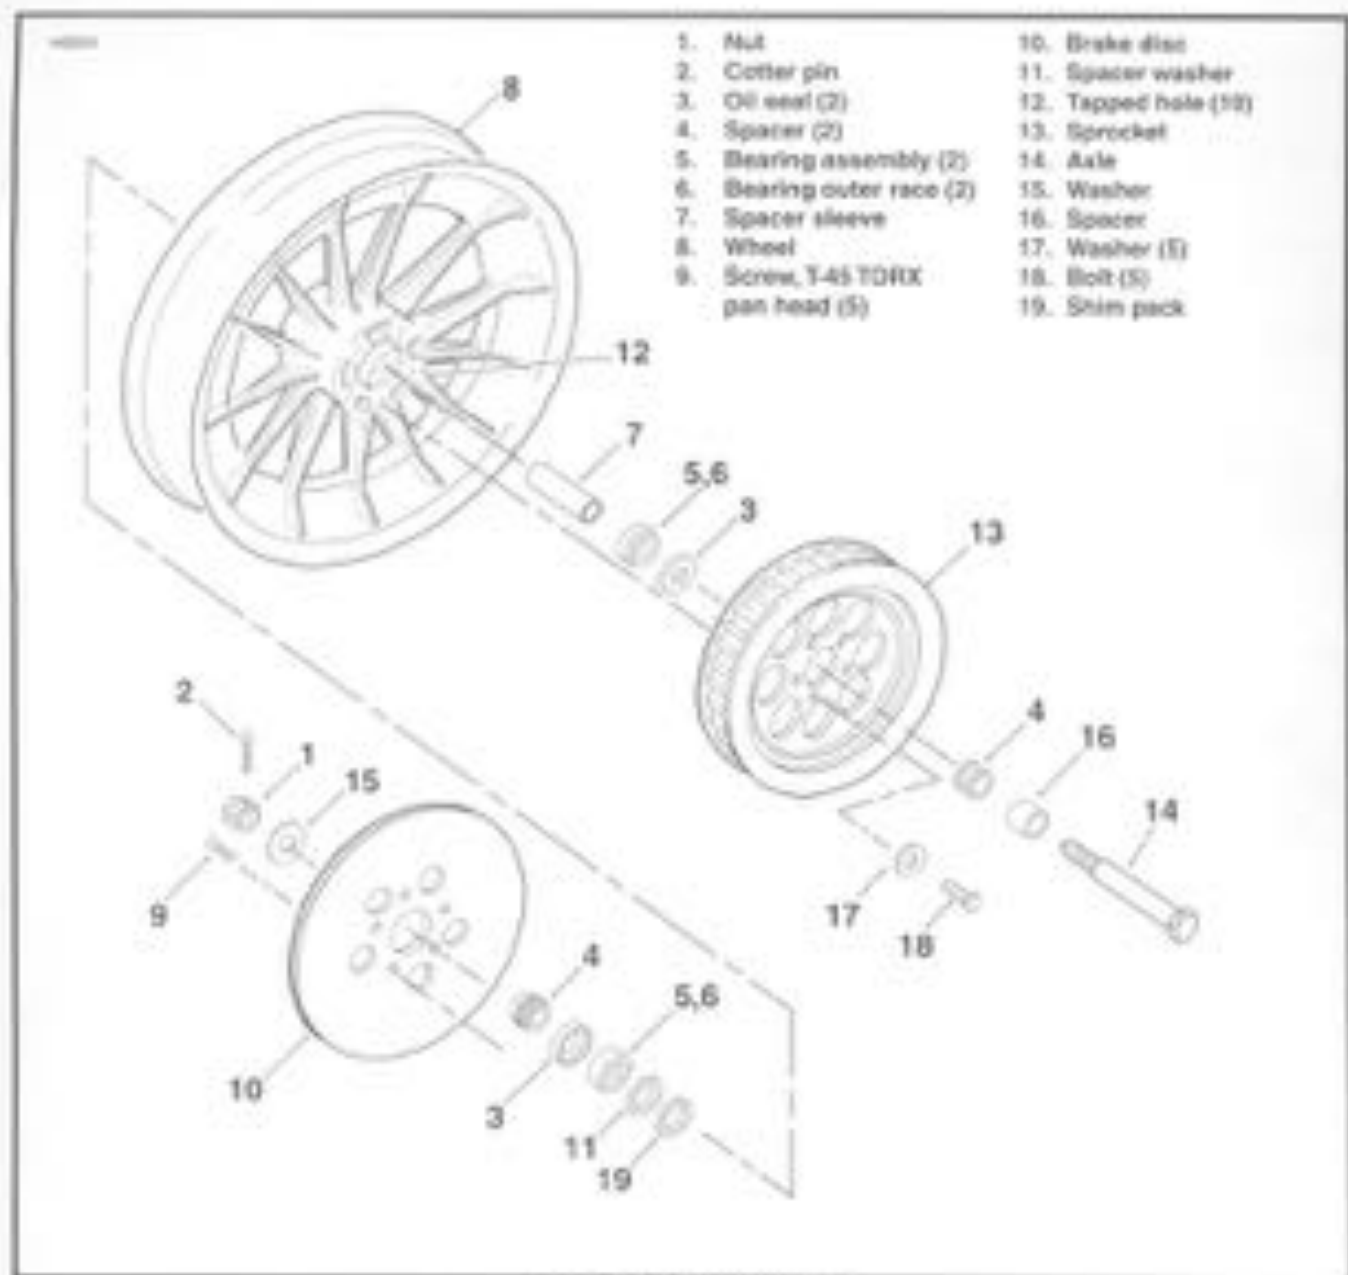
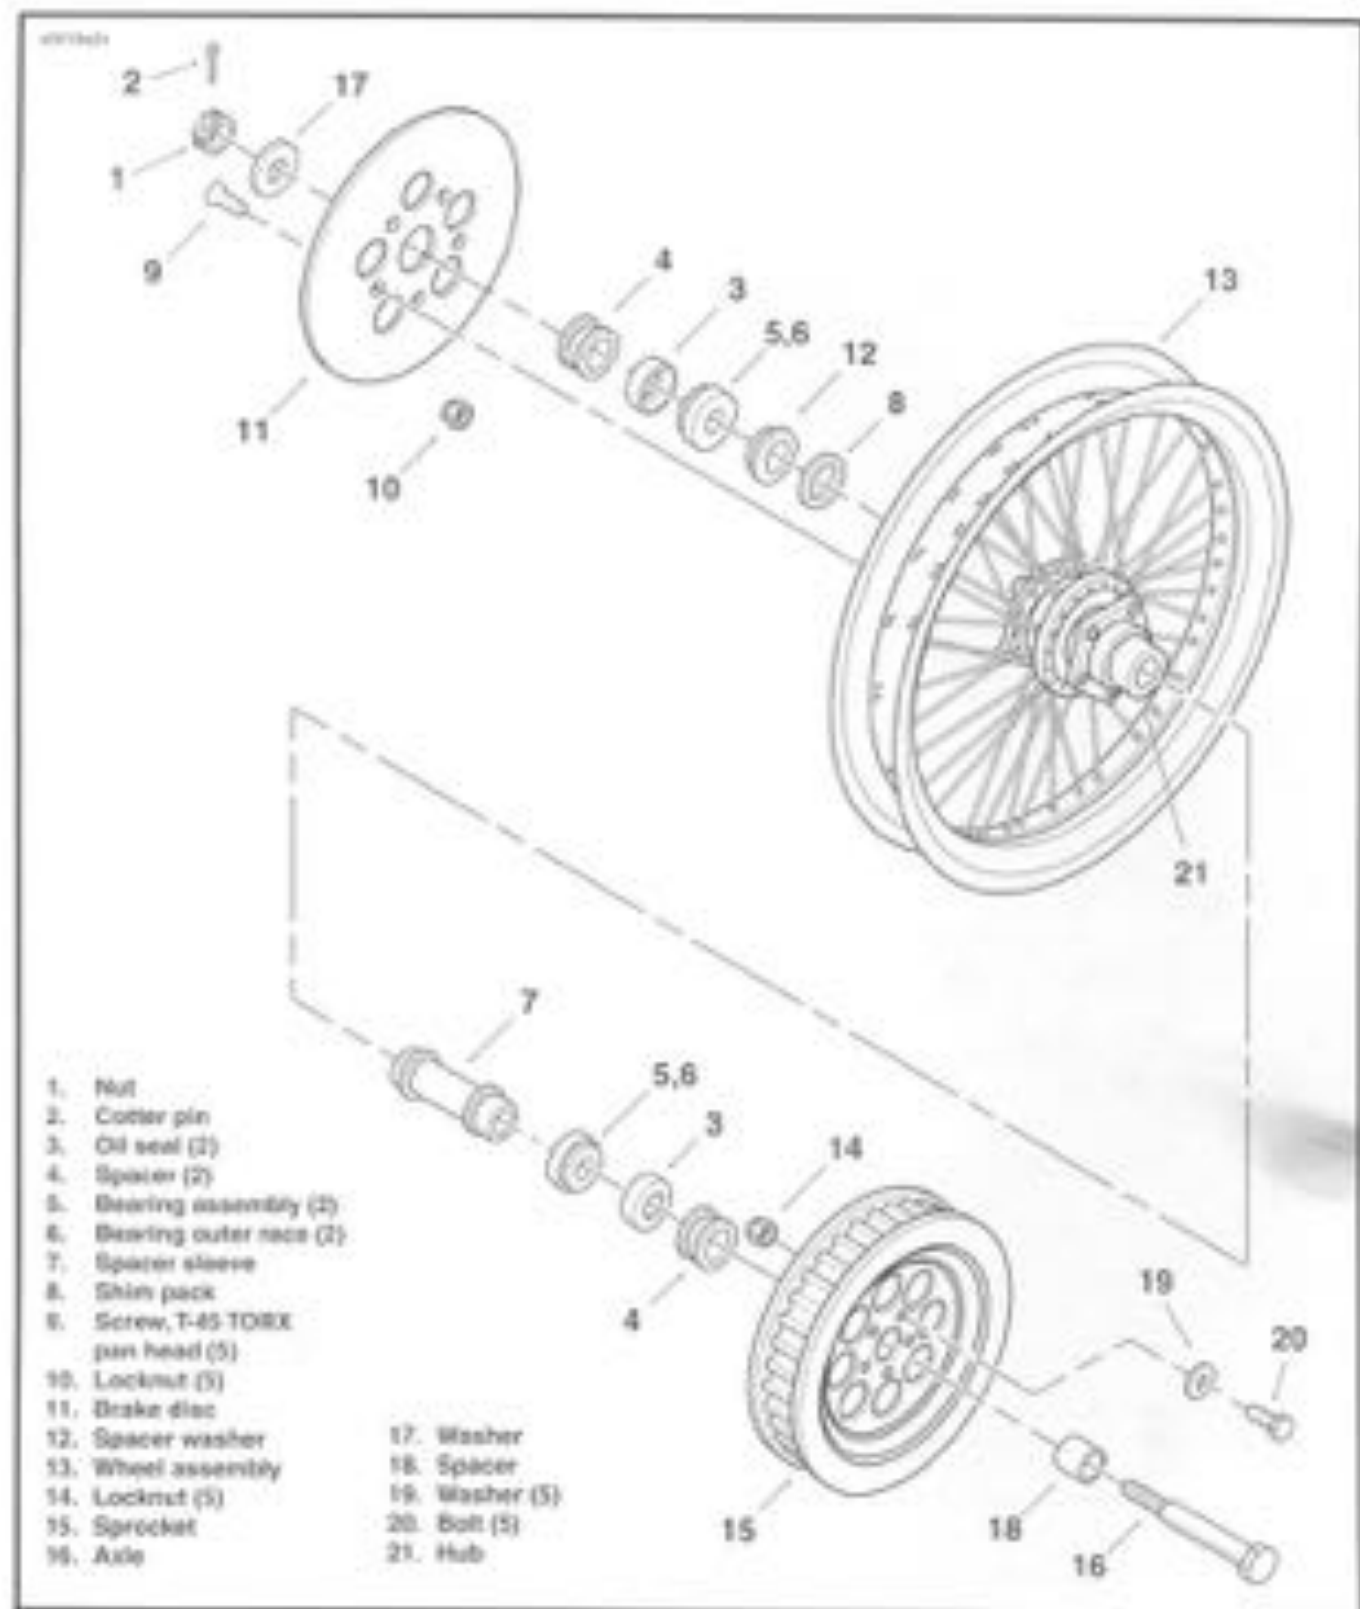

Figure 2-9. Cast Rear Wheel
Figure 2-10. Laced Rear Wheel
5. Remove spacers (16, Figure 2-9; 18, Figure 2-10) and rear wheel assembly.
Cast Wheel (Figure 2-9)
Laced Wheel (Figure 2-10)
2. Apply **LOCTITE ANTI-SEIZE LUBRICANT** to axle (14, Figure 2-9; 16, Figure 2-10). Insert axle through right side of rear fork, spacer (16, Figure 2-9; 18, Figure 2-10), wheel assembly, rear caliper bracket and left side of rear fork.
4. See Figure 2-9 and Figure 2-10. Mount a magnetic base dial indicator on the brake disc. Set the indicator contact point on the end of the axle. Move the wheel back as far as it will go. Holding the wheel in position, zero the dial indicator gauge. Move the wheel forward as far as it will go. Note the reading of the dial indicator. The lateral movement or end play must fall between 0.002 and 0.006 in. (0.05-0.15 mm). Repeat the procedure to verify the reading.
5. Remove the wheel and substitute thicker spacer shim(s) (19, Figure 2-9; 8, Figure 2-10) if the end play must be increased. Use thinner spacer shim(s) to reduce the end play. See the following table for the available spacer shim thicknesses.